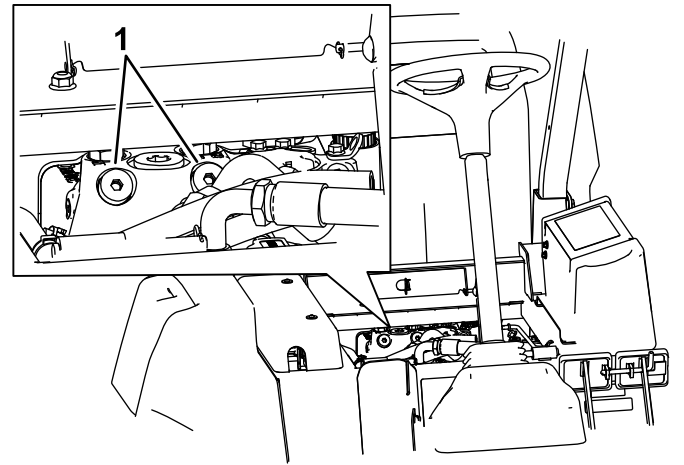

Figure 72
1. Raise the seat and locate the bypass valves, which are located below the front of the fuel tank (Figure 72).